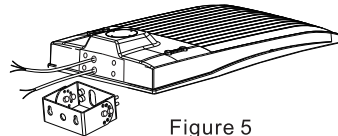

Figure 5
Step 1: Remove the mounting screws on the fixture and run the wires through the mounting. (Figure 5)